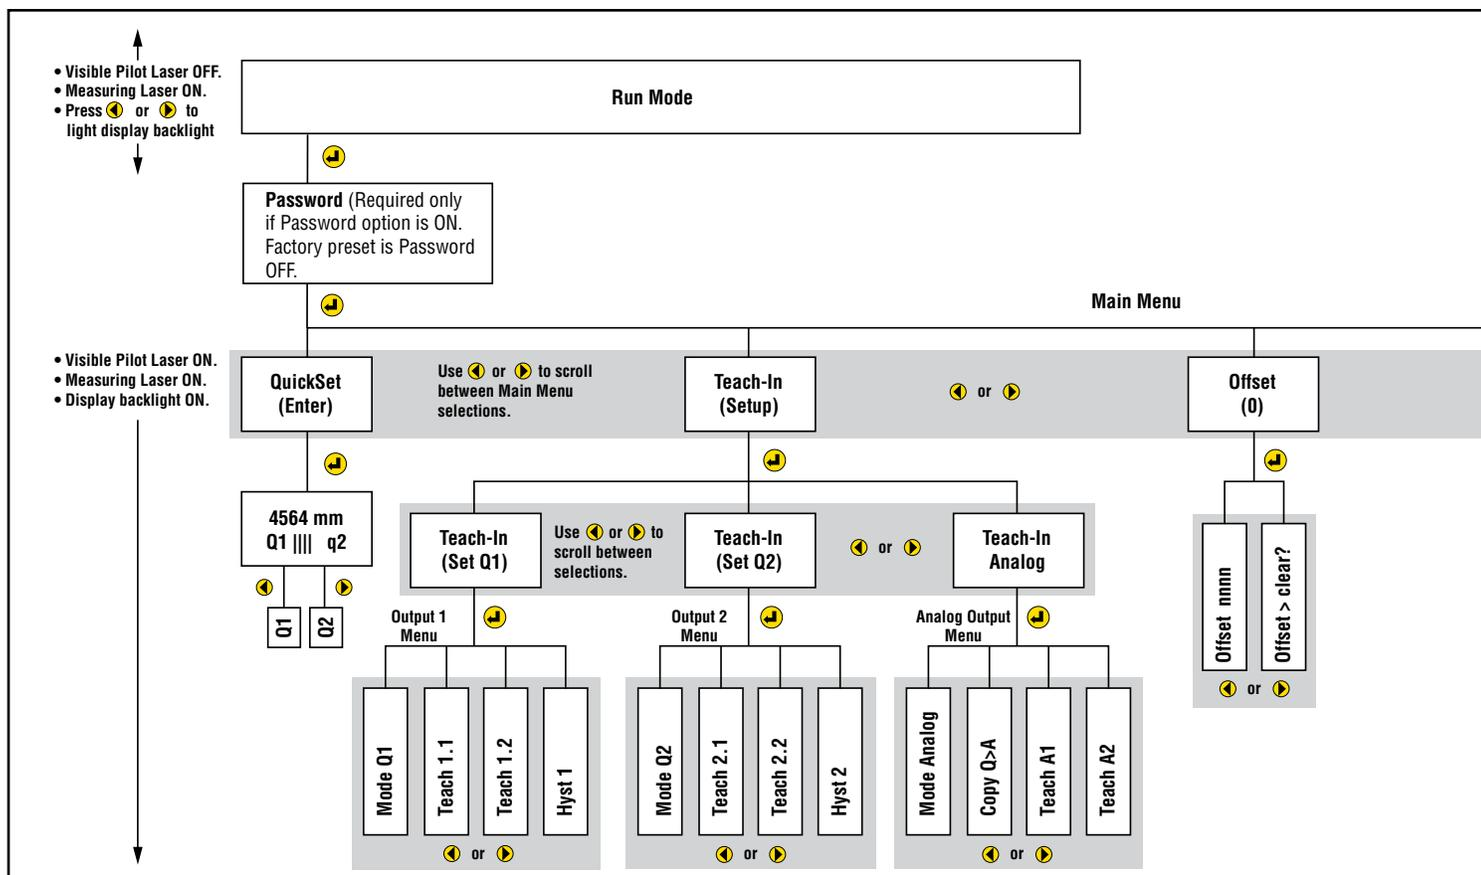

Figure 7. Programming menu tree
Left Arrow	<ul style="list-style-type: none"> • Run mode: Press to light display • Programming mode: Scrolls to the next menu position to the left (Figure 7) • Manual adjust: Decreases current digit by 1 • QuickSet menu: Enables teach-in of Q1
Right Arrow	<ul style="list-style-type: none"> • Run mode: Press to light display • Programming mode: Scrolls to the next menu position to the right (Figure 7) • Manual adjust: Increases current digit by 1 • QuickSet menu: Enables teach-in of Q2
Left and right arrow buttons simultaneously	<ul style="list-style-type: none"> • Escape: Cancels active function and switches to one menu level above (Figure 7) without saving new values • Important: Both arrows must be pressed simultaneously. Previous value is unchanged.
From Run mode, press Enter to access Programming mode. If Password is set to OFF (factory setting), the sensor will proceed to the Main menu (see Figure 7). When the sensor enters Programming mode, several things occur:
- Sensor proceeds to QuickSet on the Main menu (see Figure 7).
2. Activate any Programming menu item (see Figure 7), so that the pilot laser is ON.
3. Activate any menu item (see Figure 7), so that the pilot laser is ON.